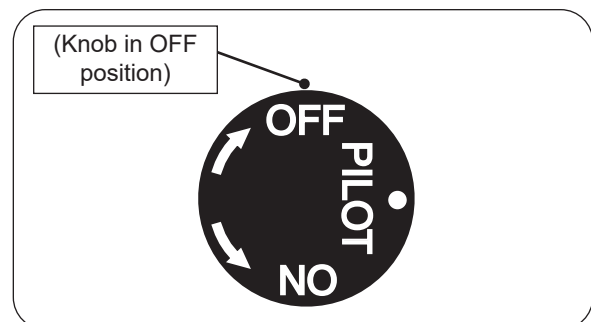

Fig. 34-2 Pilot shut down
2. Locate the valve on the side of the unit. Push in the gas control knob slightly and turn clockwise to **OFF** (see Fig. 34-2).
Push in the control knob slightly and turn clockwise to **OFF**. Do not force. See Fig. 34-2.